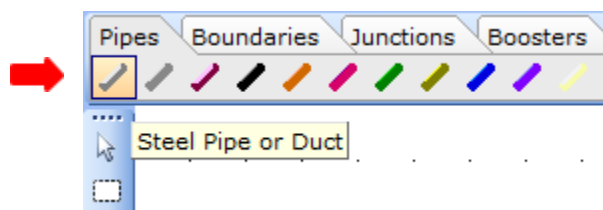

Figure 6: Steel Pipe or Duct Icon.
- We can now connect the boundaries and centrifugal pump by selecting the desired pipe material from the *Component Palette*. In this design case, we know the pipe is a Schedule 40 steel pipe. Therefore, we need to select the Steel Pipe or Duct icon from the Component Palette (Figure 6).